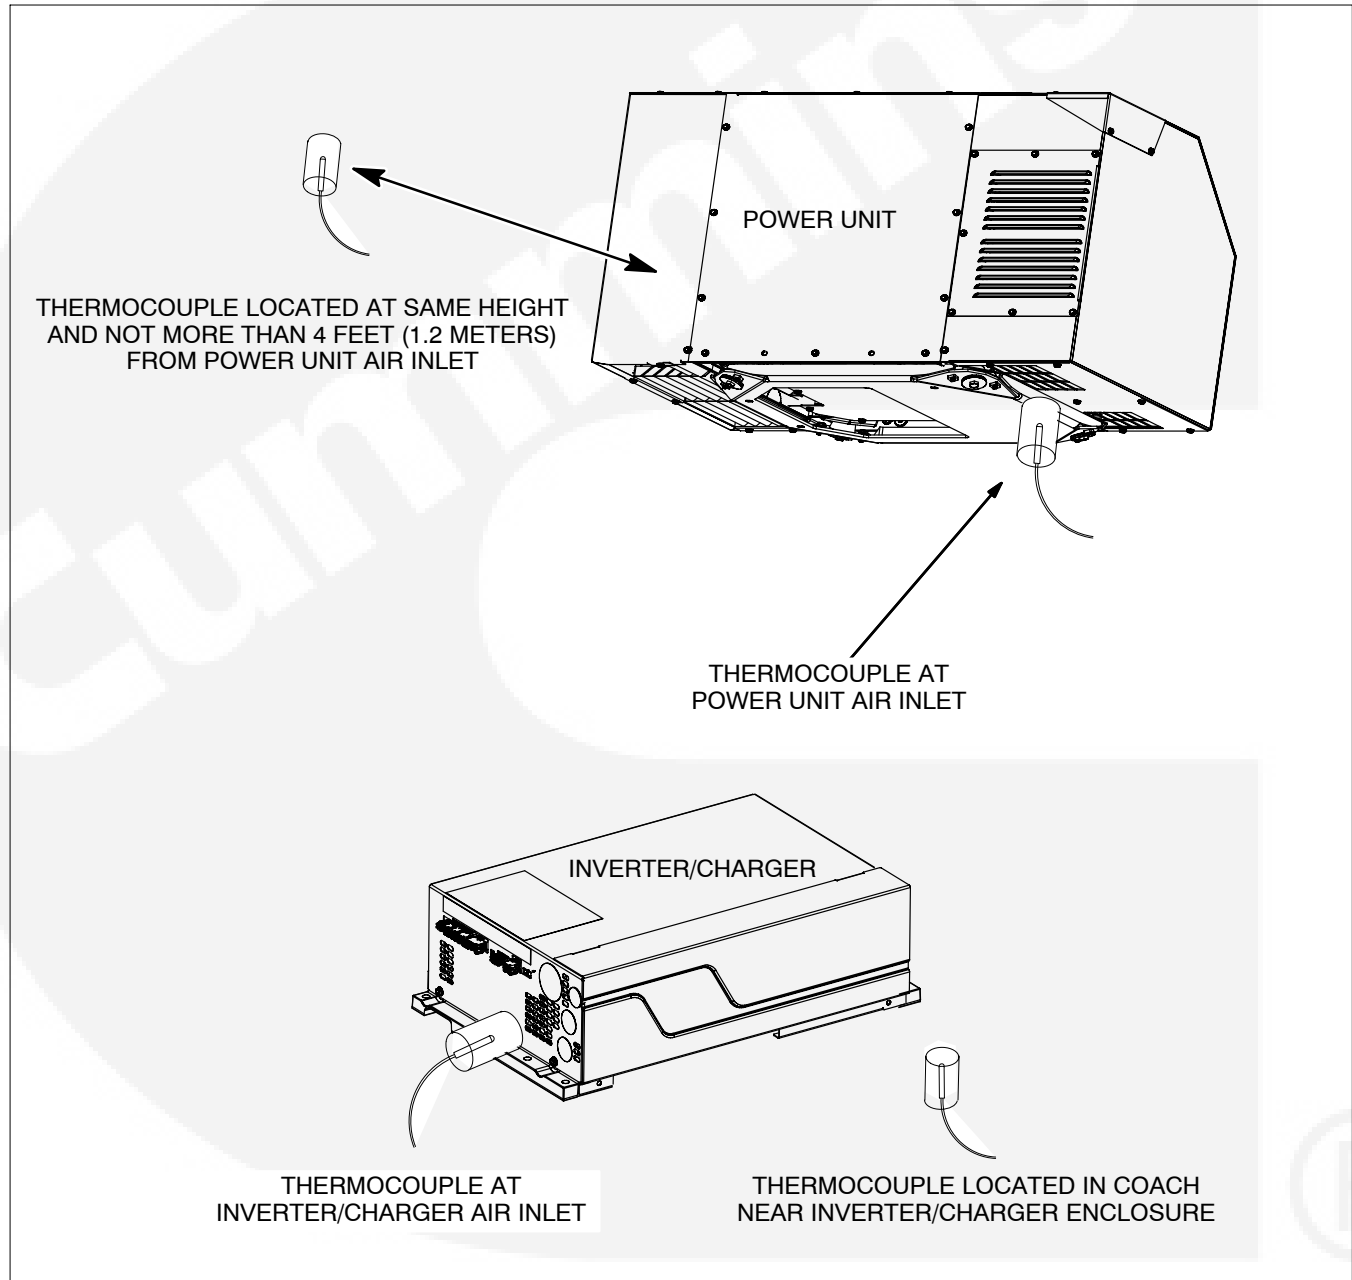

FIGURE C-1. THERMOCOUPLE LOCATIONS
3. Measure temperatures with shielded thermocouples not heavier than No. 24 AWG (0.25 mm²). A 2 inch diameter white PVC pipe 6 inches long is a good thermocouple shield. See Figure C-1.